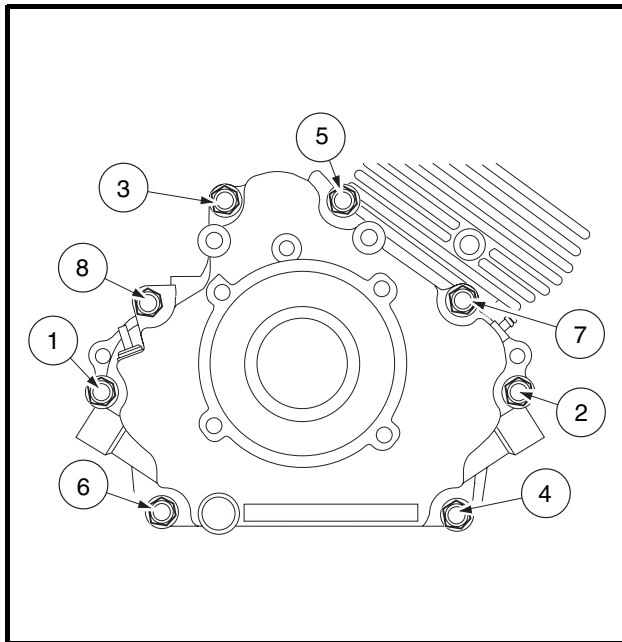

Figure 13-6 Crankcase Cover Installation
3. Install and finger tighten evenly the eight cover mounting bolts (**Figure 13-6, Page 13-6**).
4. Tighten the cover mounting bolts in two steps. First, in the sequence shown, tighten all eight bolts to approximately 130 in-lb (14 N·m). Then, repeating the sequence, tighten them to 250 in-lb (28.2 N·m) (**Figure 13-6, Page 13-6**).